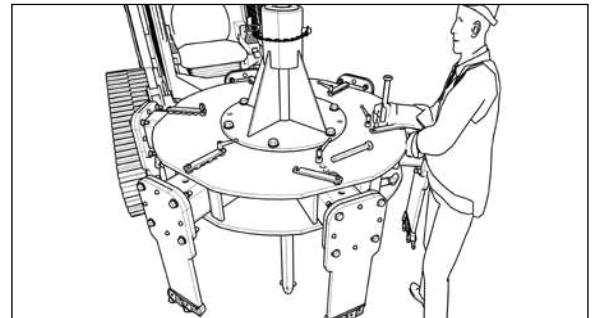

Figure 16. Setting Cutter Diameter
16. Repeat Step 14 for each arm, being certain to adjust all arms to the same cutting diameter. See Figure 16.